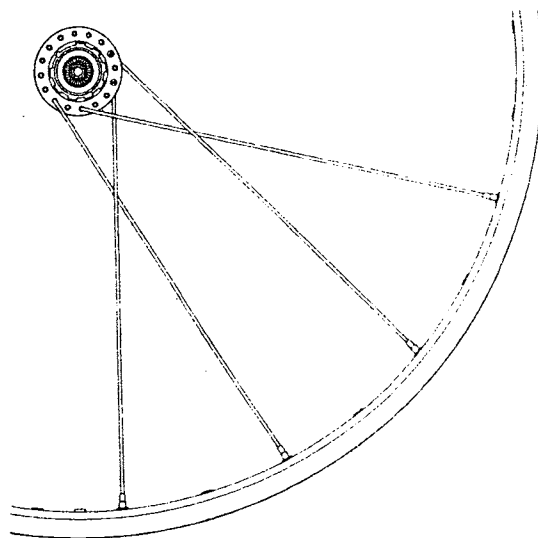

Fig. 5 After attaching four spokes, verify that there is an empty spoke hole between all spokes, and that heads down spokes are woven under heads up spokes.
Step 8- To select the next spoke, count in a clockwise direction from the last attached spoke, 3 head down spokes (for a 4 cross, you would count 4), skip a hole and attach the selected spoke to the rim in the next available hole that is facing up (see figure 5). There should now be four spokes attached to the rim with an empty hole in between each spoke.